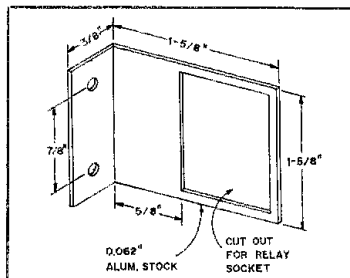

Fig. 3 — Relay assembly mounting bracket. Inches (") \times 25.4 = mm.
The 4pdt relay plugs into a socket (Radio Shack 275-221), which is mounted on a 0.062-in. (1.6-mm) thick aluminum mounting bracket as shown in Fig. 3.
Fig. 3 — The circuit at A is a high-impedance voltage divider. Using a standard VOM (B) results in a 37% error because of meter loading. An 11-M Ω meter does not load the circuit appreciably; the error is less than 1% (C).
This resistance is placed in parallel with the circuit resistance whenever we make a measurement. Often (when the circuit resistance is much lower than the meter resistance) it is unimportant, but when dealing with high-impedance devices like FETs we must be aware of the effects of meter "loading." Fig. 3 shows the type of error that can be caused by using even a 50-k Ω -per-volt VOM in a high-impedance circuit. If a high-impedance meter, such as an FET or vacuum-tube voltmeter, is used (Fig. 3C) the error caused by meter loading becomes very small.